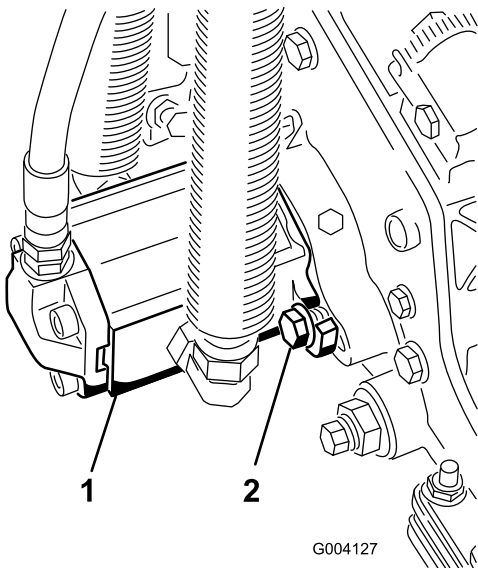

Figure 21
- 3. Install the motor by rotating it clockwise so that the motor flanges clear the bolts (Figure 21).